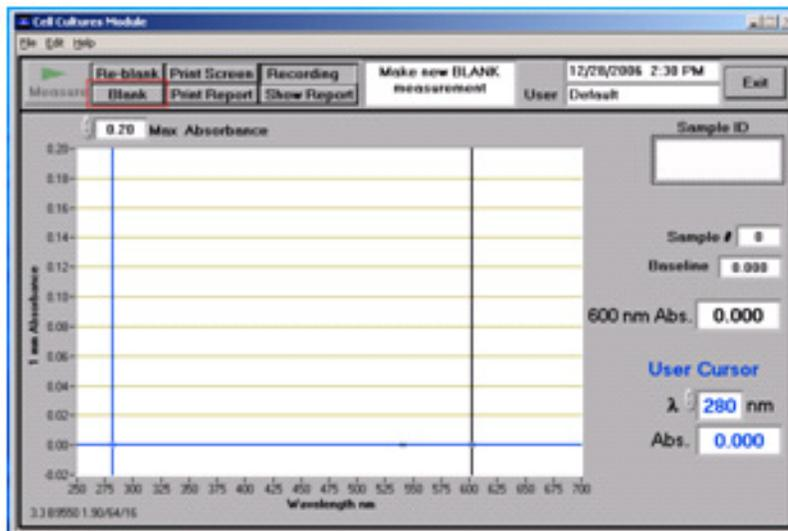

Figure 31 NanoDrop® ND-1000 Spectrophotometer software measurement dialog box.
8. Click **Blank** and allow the instrument to take a measurement (see Figure 31 on page 193).